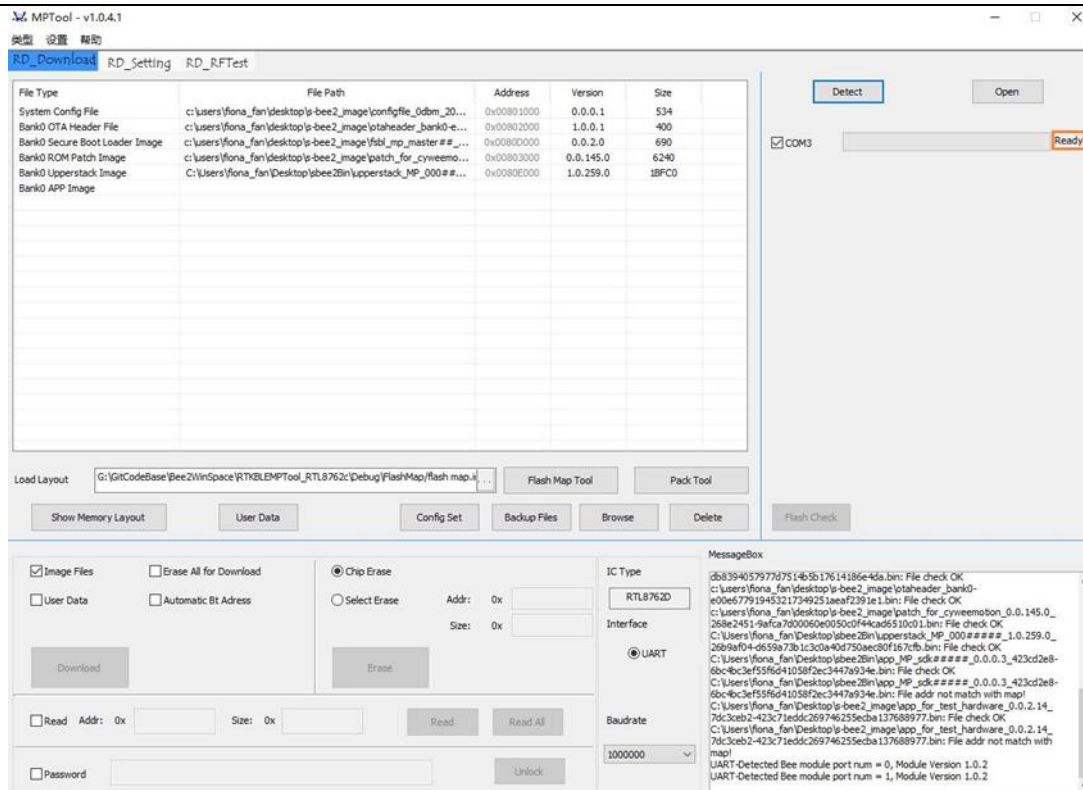

Figure 7-12 Detect Port
- 4) Click “Detect” to detect port numbers, the port displays “Ready” status after detection, as is shown in Figure 7-12;